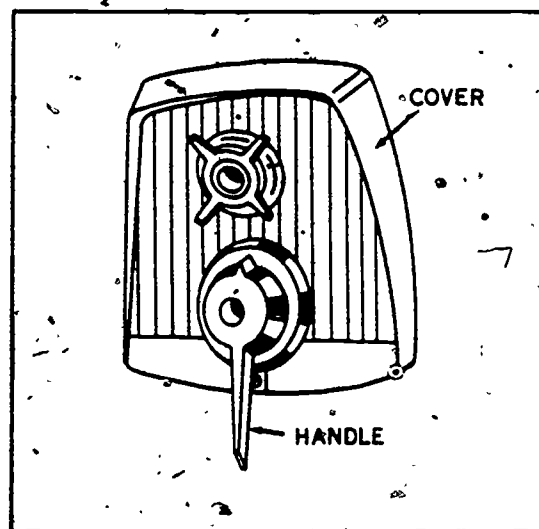

Figure 2-25. Thermostatically controlled mixing valve.
c. Thermostatic mixing valve. The thermostatically controlled mixing valve, similar to the one shown in figure 2-25, is sensitive to changes in both temperature and pressure. The temperature of the water delivered by the valve remains constant regardless of the